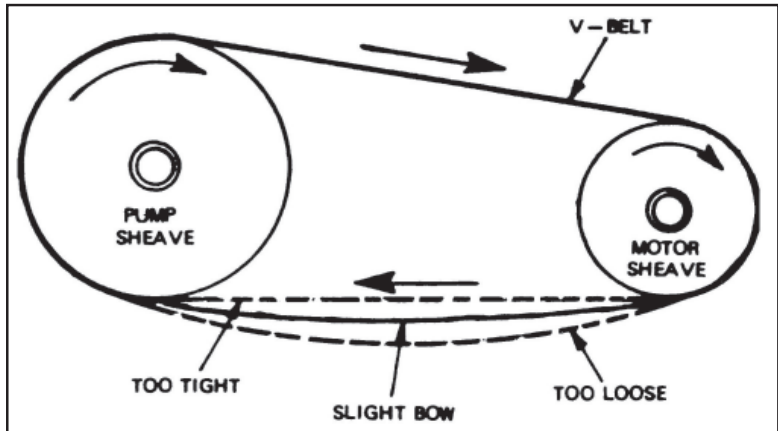

Figure 3. V-Belt Tensioning
The two rotary pistons pump in parallel and are driven by two eccentric cams keyed to a shaft (see Figure 3). Each rotary piston has a hollow extension (slide) that moves through a slide pin. The hollow extension has ports which form an inlet valve with the slide pin. The ends of the cylinder are enclosed by an open head, through which the shaft extends, and a closed head. The shaft has a mechanical seal on the open head end to prevent leakage around the shaft. Spring loaded discharge valves are located at the discharge side of the pistons. An oil separator oil mist eliminator is mounted on top of the pump and connected to the discharge of the pump. A sight gauge in the oil separator is provided for checking the oil level and when pumping at low inlet pressure the oil level should be in the center of the sight gauge.
2. Start the drive and continue to tension the v-belt(s) until only a slight bow on the slack side of the drive appears while operating under load conditions as shown in Figure 3.
4. Check the v-belt tension as shown in Figure 3.